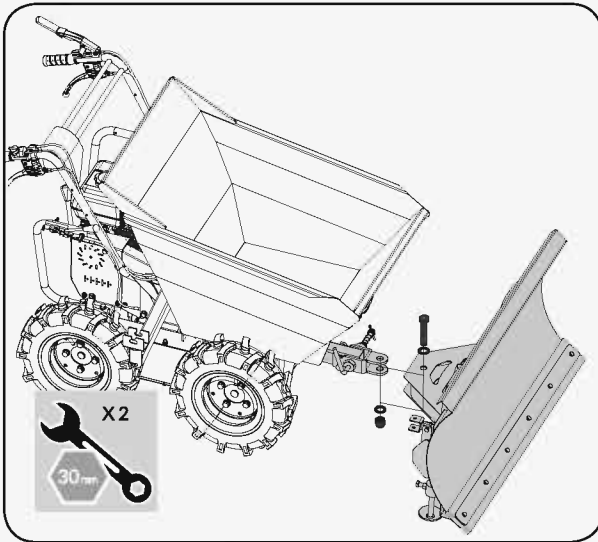

Figure 6c
4. Fix the blade assembly to the flange bracket with M20×100 bolt, washer and nut. Do not overtighten, allowing the blade to rotate freely in both directions. (See **Figure 6c**)